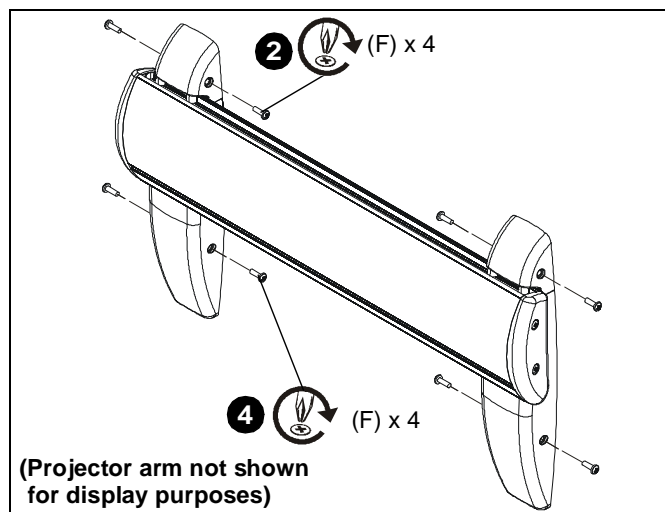

Figure 35
2. Secure wall bracket top caps (C) to wall bracket arms by installing four #8-32 x 1/2" Phillips pan machine screws (F) through holes in covers and wall bracket. (See Figure 35)
4. Secure wall bracket bottom caps (D) to wall bracket arms by installing four #8-32 x 1/2" Phillips pan machine screws (F) through holes in covers and wall bracket. (See Figure 35)